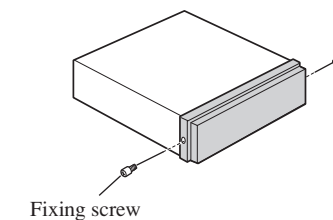

Fig. 10
**About the fixing screws for the front panel (Fig. 10)**